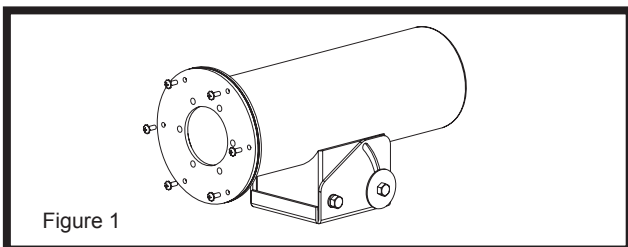

Figure 1
3. Remove the (6) tamper resistant screws on the front of the housing with the security tool provided in the installation packet (Figure 1).